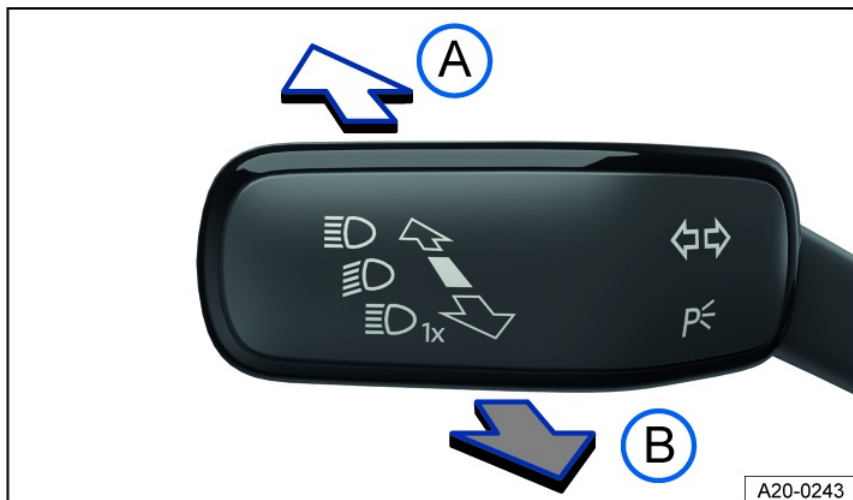

Fig. 74 On the left side of the steering column: turn signal and high beam lever.
2. Press the turn signal and high beam lever forward out of the center position *fig. 74*.
1. Pull the turn signal and high beam lever backward out of the center position *fig. 74*.
1. Pull the turn signal and high beam lever backward out of the center position and hold it *fig. 74*.